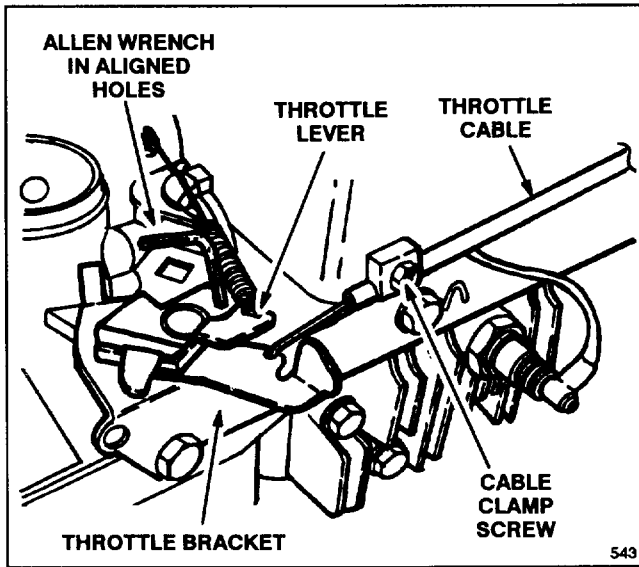

Figure 15
3. Loosen cable clamp screw until throttle cable slides (Fig. 15).
4. Move throttle lever right or left until hole in throttle lever lines up with hole in throttle bracket (Fig. 15). Use an allen wrench, small drill or pin to hold alignment.